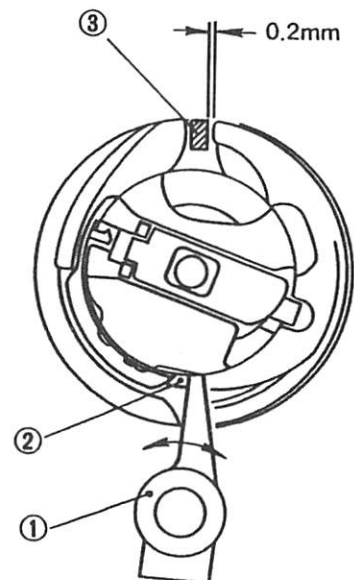

Fig. 22
1. Turn the machine pulley until the opener (①, Fig. 22) presses the projection of hook (②, Fig. 22) extremely on its travel.
2. Press the opener to the projection of hook and make the right side clearance between the notch on the bobbin case holder and the tab of the hook retainer (③, Fig. 22) 0.2mm as shown Fig. 22